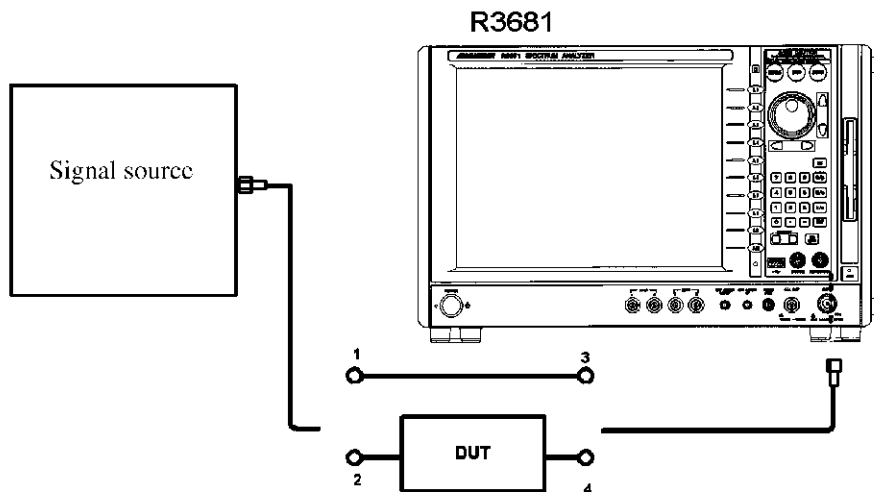

Figure 4-7 Connection Diagram using the Equalizing Filter
1. Connect the instruments to the 1-3 path shown in Figure 4-7.
56. Connect the instruments to the 2-4 path shown in Figure 4-7.